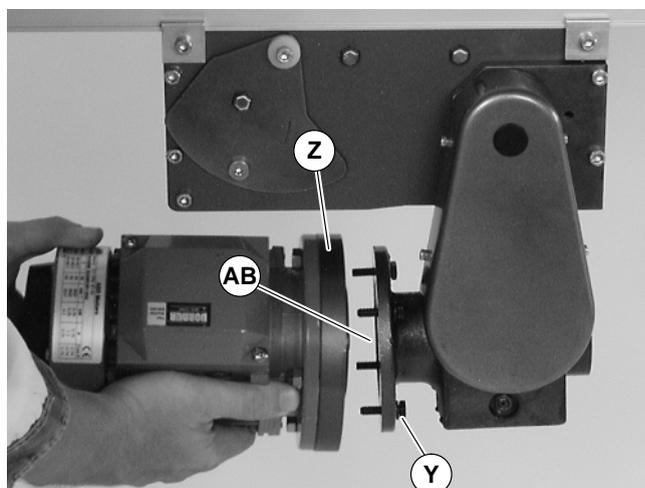

Figure 24
6. With key (AB of Figure 24) in keyway, slide motor with adapter flange (Z) and gear reducer together. Install screws (Y) and tighten.